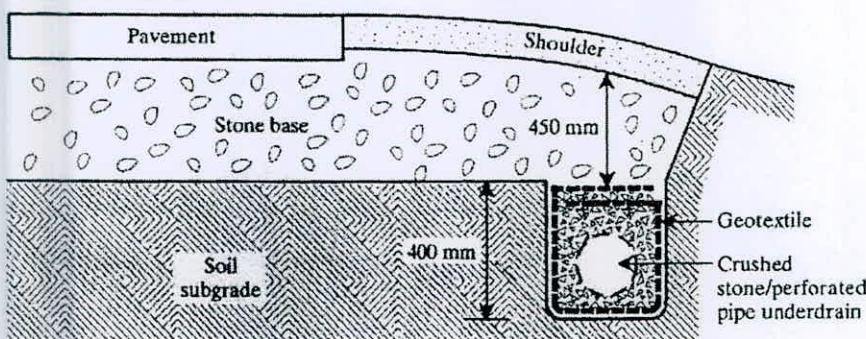

Fig.1
- (c) Design the geotextile filter surrounding a graded stone aggregate that, in turn, surrounds a perforated pipe underdrain, as shown in the **Fig. 1**. The surrounding soil is a dense sandy silty (ML) with the relevant properties of 15% non-plastic fines, $C_c = 2.0$, $C_u = 5$, $d_{50} = 0.035$ and $k = 1 \times 10^{-5}$ m/s. The geotextile being considered is of needle punched non-woven type with laboratory tested values of $\psi = 1.5 \text{ sec}^{-1}$, and AOS = 0.212 mm. The maximum flow that will pass through the geotextile is estimated as 15 m³/day per meter. Notice that water from the stone base will pass only through the geotextile above the underdrain. **(9)**